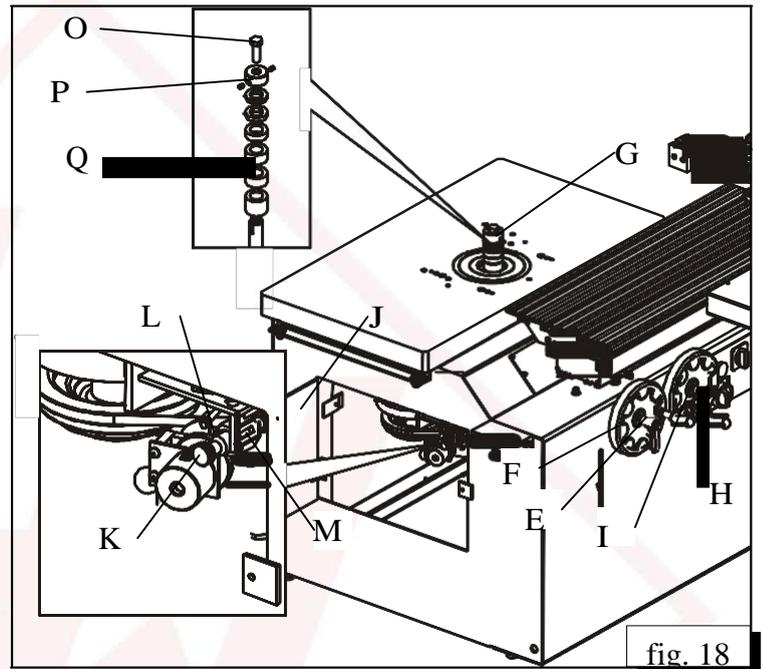

fig. 18
- Release the fixing lever E (fig. 18) and position, by means of hand wheel F, the cutting spindle G in 90° towards the operation board.